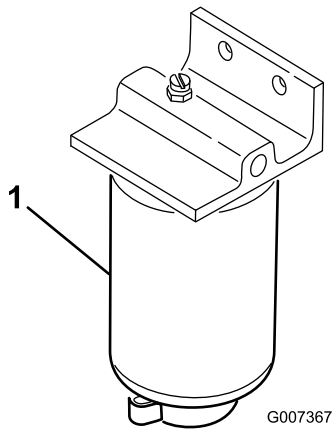

Figure 35
1. Place a clean container under the fuel filter (Figure 35).